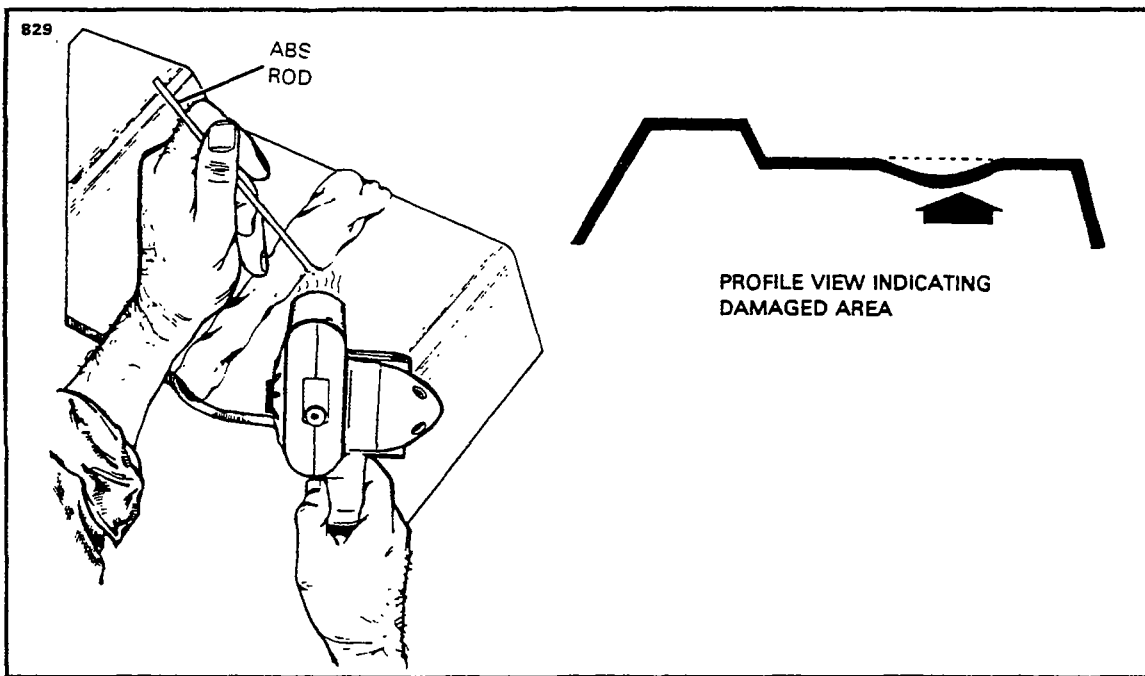

Figure 4-18. Repair of Impacted Damage
1. Stress lines produce a whitened appearance in a localized area and generally emanate from the severe bending or impacting of the material. (Refer to Figure 4-18.)